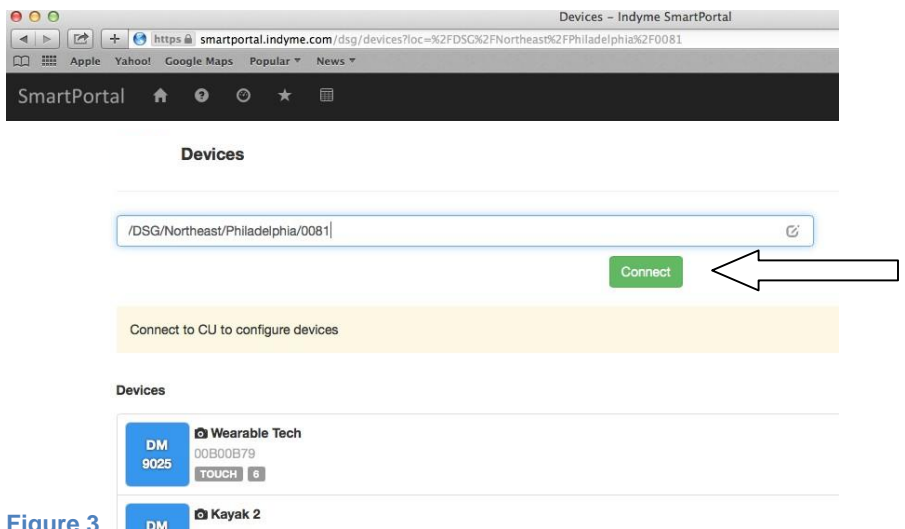

Figure 3
- 4- Select the Connect button to put the system in configuration mode (see Figure 3)